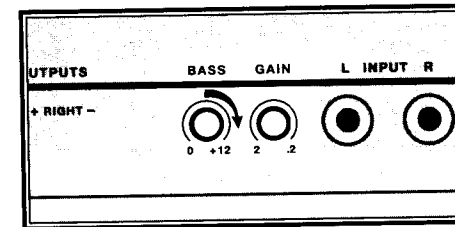

Figure 11 - Bass Control
5. If you desire more Bass output, adjust the "Bass EQ" level clockwise. The adjustment range is from "0" to "+12 dB". We recommend using as little Bass EQ as possible. Remember, boosting +12 dB at 45Hz requires the amplifier to work 16 times harder! (see figure 11)